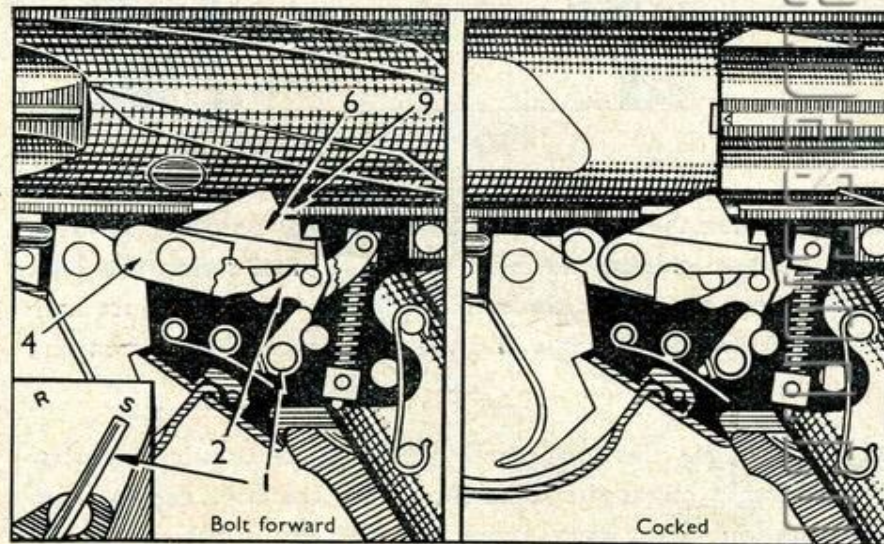

Fig. 7. Applied safety
5.3 APPLIED SAFETY (Fig. 7). When with the weapon cocked, the change lever set at safe S the inner arm of the change lever (1) is positioned directly under the short arm of the tripping lever (4). When the trigger is pressed the sear cradle and sear cannot be depressed because the short arm of the tripping lever is held immovable by the inner arm of the change lever.